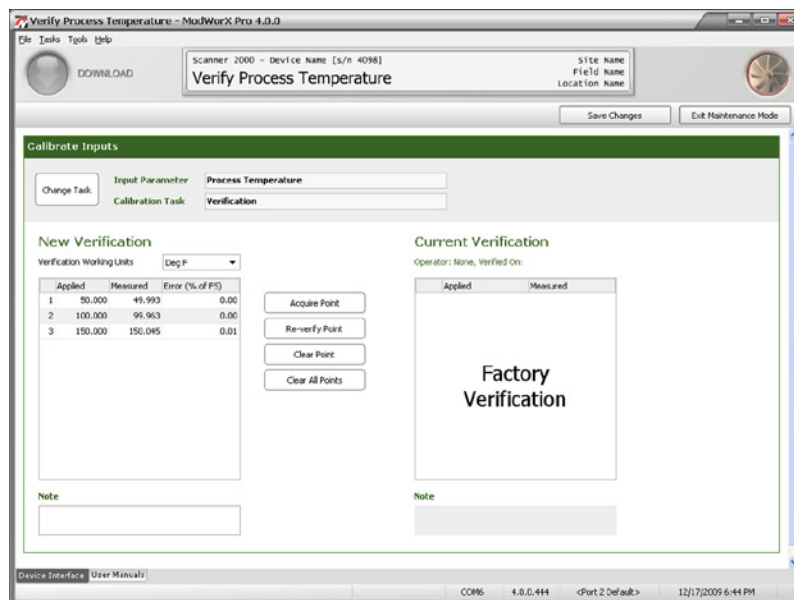

Figure 8.23
9. When a measured value is indicated, click **OK** to save the verification and return to the Verify Process Temperature screen (Figure 8.23, page 126). The New Calibration table is updated with the applied temperature, the measured temperature, and a percentage of error. The percentage of error is expressed as a percentage of full scale, and is calculated with respect to the applied value.